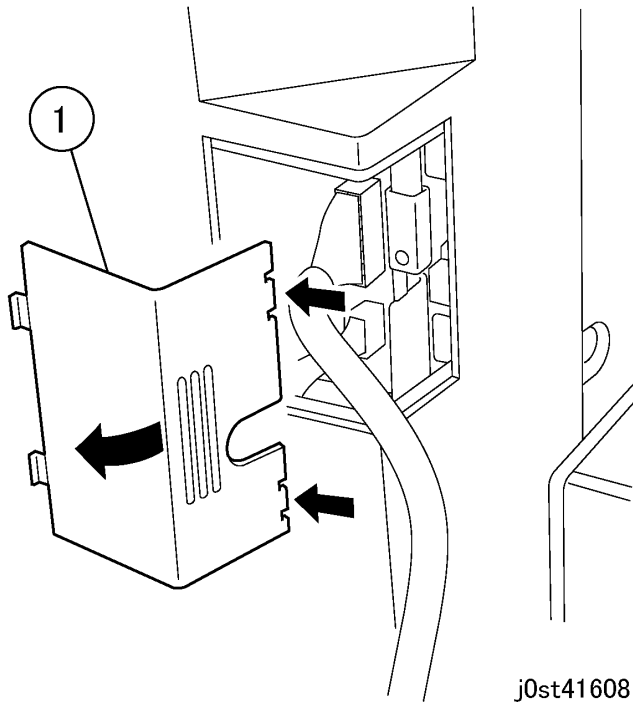

Figure 1 Removing the Left Panel (j0st41608)
1. Remove the Left Panel. (Figure 1)